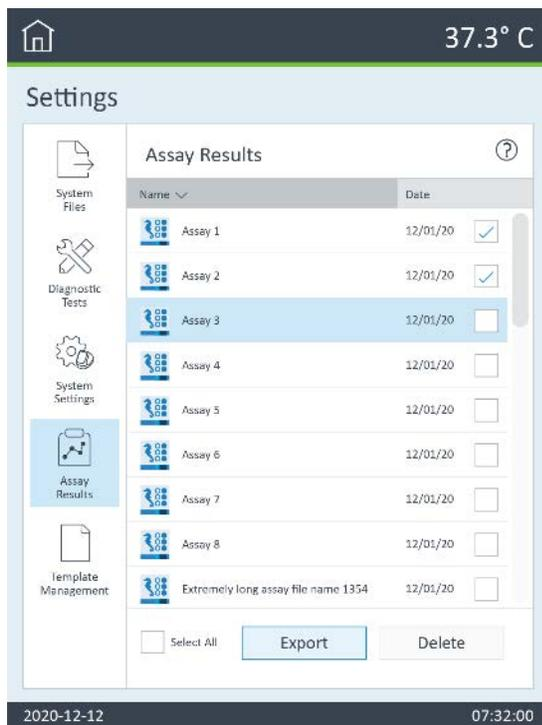

Figure 25. Assay results view.
- 1 Assay results:** Individual assay results can be viewed by clicking the small check box next to the result file to view and click **View**. See Figure 25.